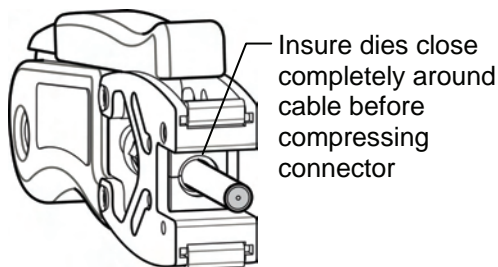

Figure 5
5. Release the dies and insure they close completely around the cable as shown in Figure 5.